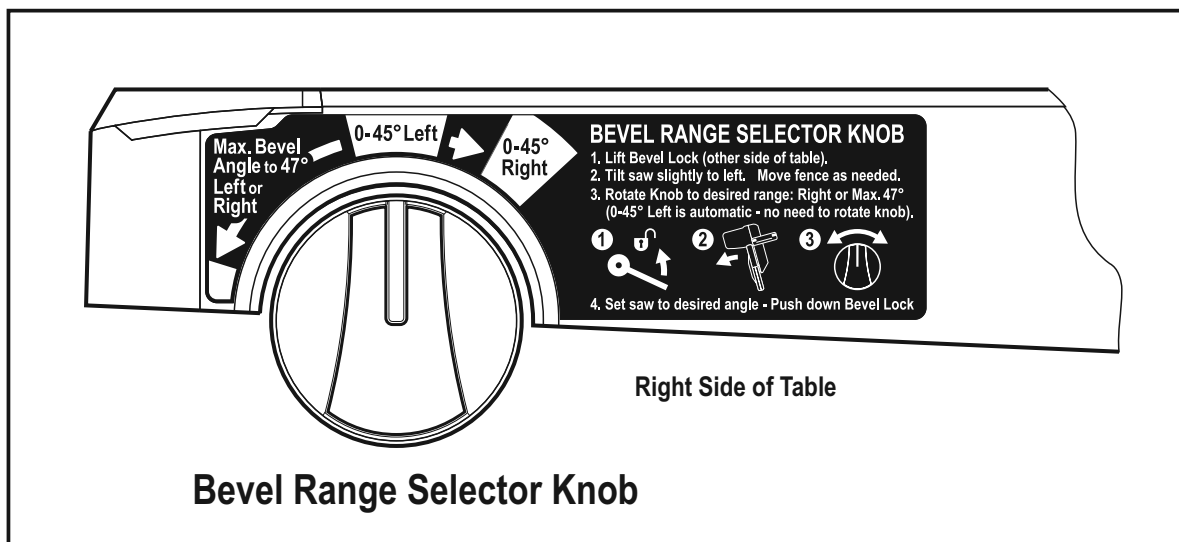

Figure 49. Bevel Range Selector Knob – Right Side of Table
**Bevel range selector knob** – This saw has a front control on the right side of the table arm. This is called the bevel range selector knob (item 41 – page 9). It is linked to stops and locking mechanisms in the rear which control the tool's ability to quickly and accurately be positioned to make bevel cuts. There are positive stops at the important 45° left, 0° (vertical), and 45° right angles (see Figure 49).